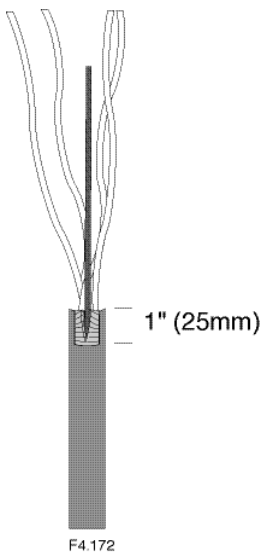

Fig. 2
5. To install a b-bond on double-armored cable, see Fig. 2 and 3.